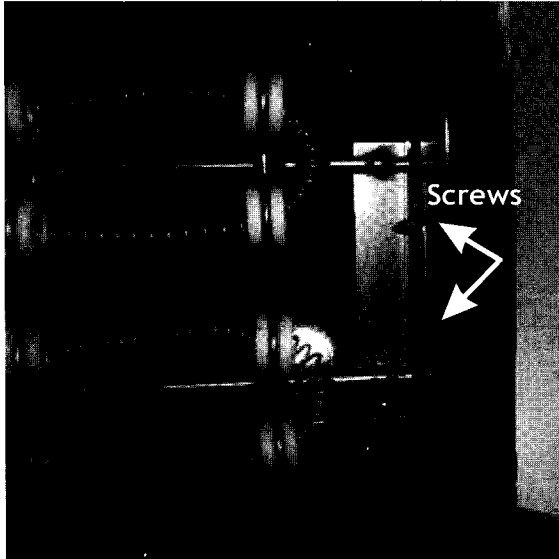

Figure 11
11. Reinstall the two (2) screws removed in step 6. Figure 11.